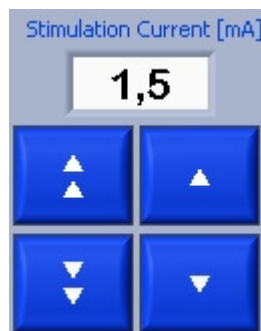

Figure 8: Stimulation current controls
In the right part of the main window the controls for the stimulation current can be found. The current can be changed in the range of 1 ... 100 mA (Figure 8).
- The amplitude of the pulse shape is defined as a value between -100 ... 100%. During stimulation it is the percentage of the selected stimulation current in the main window (cp. Figure 8).